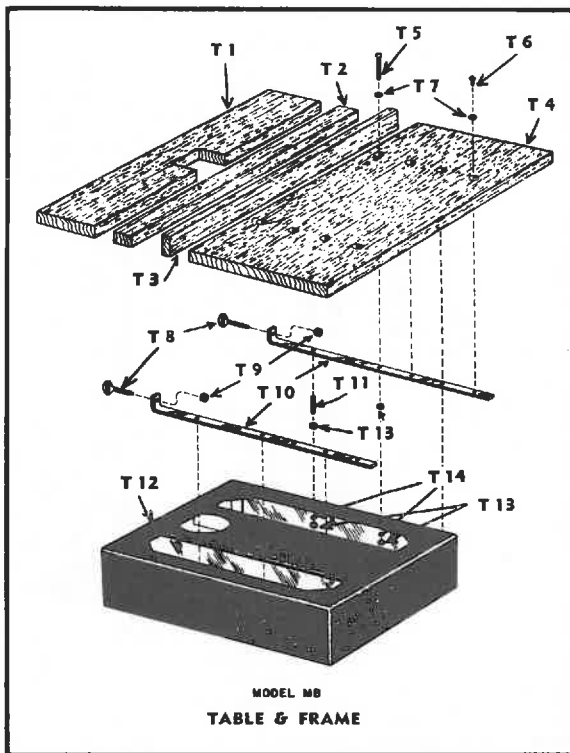

Figure 3
1. CHECK TABLE TOP AND GUIDE FENCE (Figures 3 and 4, Page 9)
7. ADJUSTING TABLE TOP PARALLEL WITH ARM (Figures 3 and 4, Page 9)